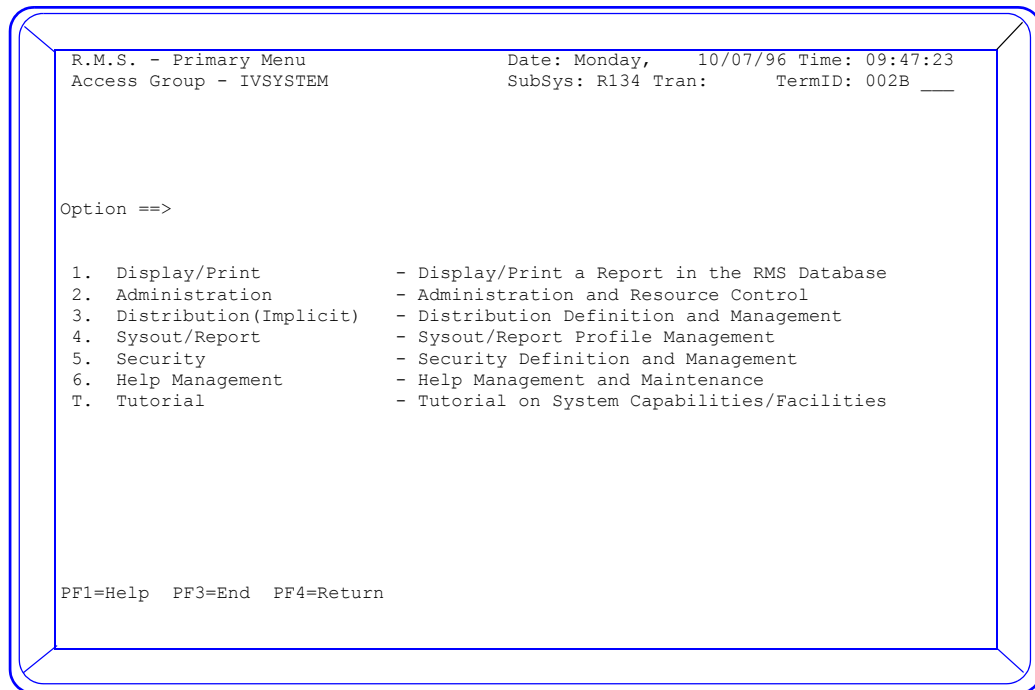

Figure 2. Primary Menu Panel.
2. The Primary Menu panel appears.(*Figure 2*)